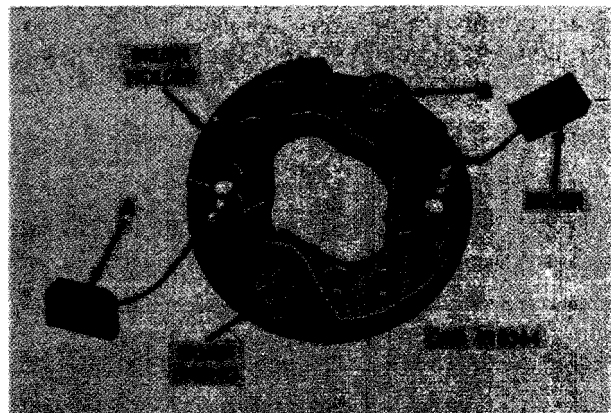

FIGURE 437. REMOVING OR INSTALLING BRUSHES AND BRUSH SPRINGS.
- (5) Remove brush and brush springs. Figure 437. (A) Pull brushes out of brush holders. (B) Pull brush springs from brush holders.